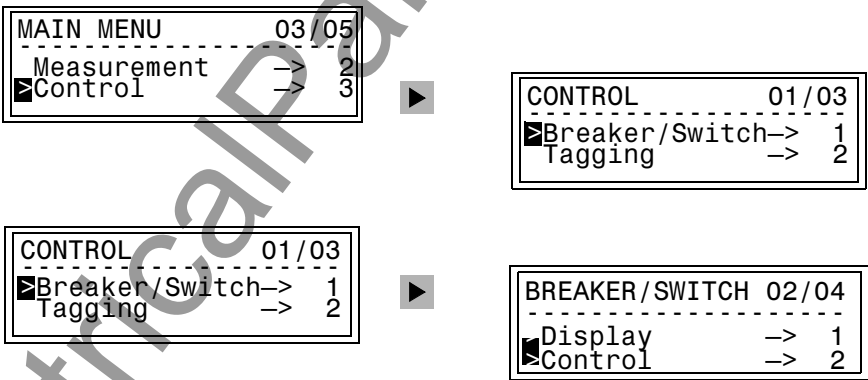

Figure 4-9 On-site Control Using the HMI
- **Main menu → Control → Breaker/Switch → Control** → Equipment and intended direction **ON** or **OFF** (Figure 4-9), or